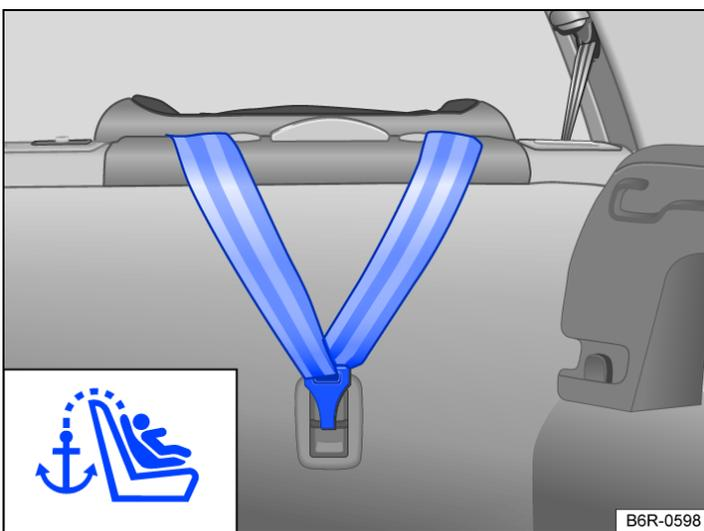

Fig. 1 In the luggage compartment: attached top tether.
The location of the ISOFIX or i-Size anchorage points is indicated by a symbol → *Fig. 1*, → *Fig. 2* or → *Fig. 3*.
- Guide the top tether of the child seat to the rear into the luggage compartment and hook it into the corresponding top tether anchor ring → *Fig. 1*.